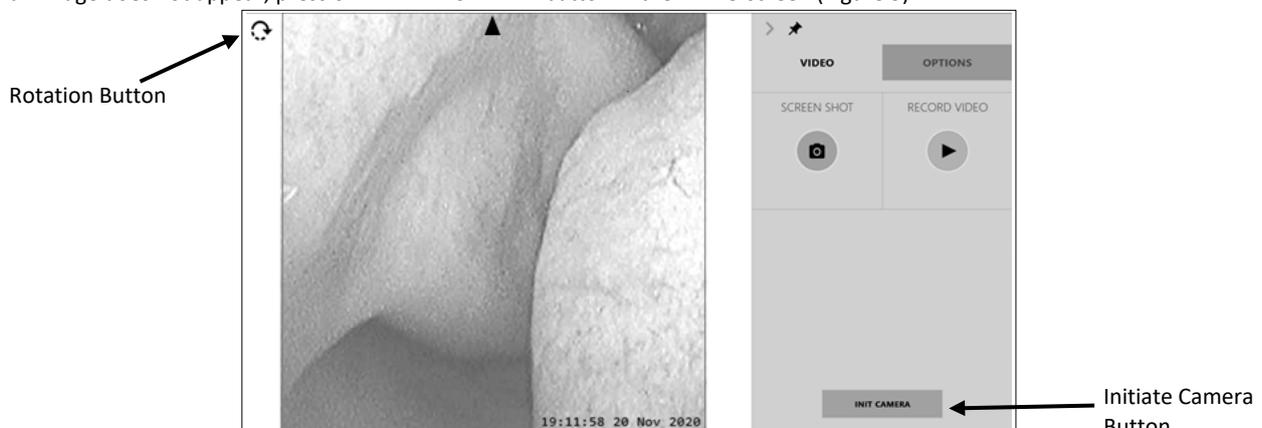
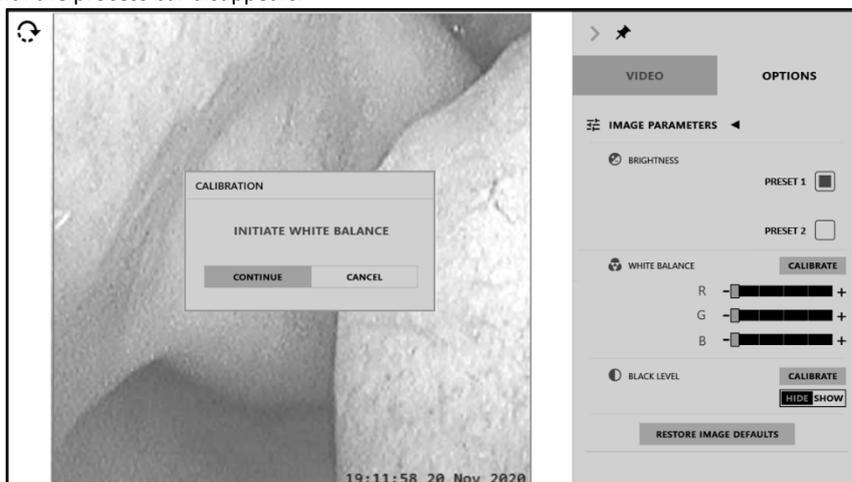
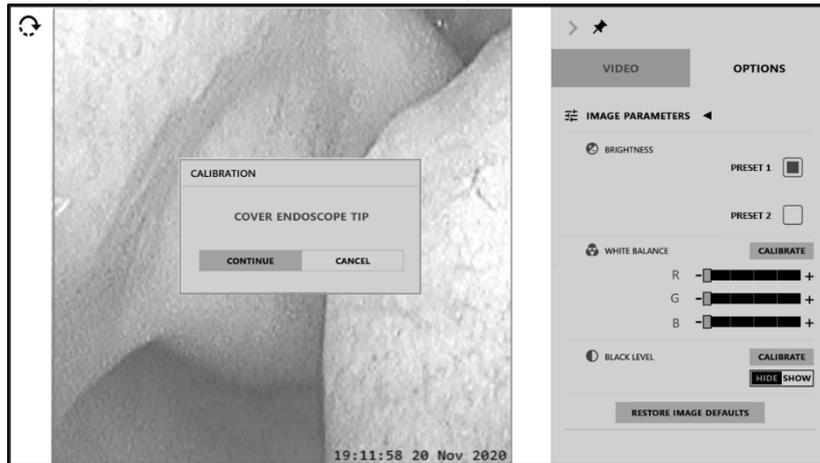

Figure 5 - VIDEO Screen
Figure 9 - White Balance Screen
Figure 10 – Black Level Screen
3. Ensure a live video image appears on the screen. If an image does not appear, press on INITIATE CAMERA button in the VIDEO screen (Figure 5).
4. If necessary, press the Rotation Button located on the upper left corner of the screen (Figure 5) to cyclically rotate the image by 90° increments until the desired orientation is reached.
6. For saving a screen shot press the corresponding button on the screen (Figure 5). Verify a screen shot was taken by looking for the “IMAGE SAVED” message below the SCREEN SHOT button or on the bottom left corner of the live video.
7. For recording a video stream press the corresponding button on the screen (Figure 5). Verify a video is recording by looking for the square recording symbol (replacing the play symbol) and the recording clock under the RECORD VIDEO button. To stop recording, press on the square recording symbol button.
- 2.3. By default, white balance is calibrated to fit the LED located at the tip of the compatible endoscopes. If white balance is still required, Press on WHITE BALANCE Calibration button and follow the displayed instructions (Figure 9).
- 2.4. If black level calibration is required, press on BLACK LEVEL Calibration button and follow the displayed instructions (Figure 10).
- 2.4.3. If you wish to keep the new calibration, select SHOW. If you wish to remain without calibration, select HIDE (Figure 10).
| Live video is not displayed or “Please connect endoscope” message is presented | <ul style="list-style-type: none"> • If the video signal is lost during a procedure and cannot be restored, slowly withdraw the scope from the patient. • Press on INITIATE CAMERA button (see Figure 5 - VIDEO Screen). • Make sure a scope is well connected to the Video Console. • If the problem is still not resolved replace scope. • If problem continues, contact 3NT Medical representative for further instructions. |
| Presented image is not clear, poor image quality | <ul style="list-style-type: none"> • Wipe the Video Console screen with a clean cloth. • Verify the endoscope tip is clean. • Press on INITIATE CAMERA button (see Figure 5 - VIDEO Screen). • Restore to image default settings. • Perform Black Level (see Figure 10 – Black Level Screen) or White Balance (see Figure 9 - White Balance Screen). • If the problem is still not resolved replace scope. • If problem continues, contact 3NT Medical representative for further instructions. |